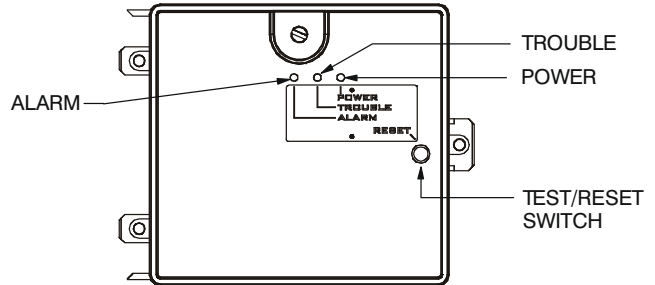

Fig. 54 - Controller Assembly
- The contacts on the controller's supervisory relay switch positions. See Fig. 54.